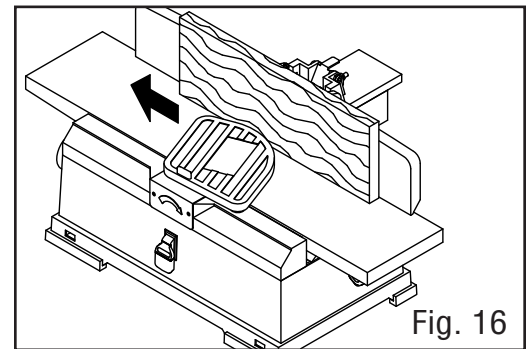

Fig. 16
2. Feed the work piece at an even rate over the cutterhead. Any hesitation or stopping will cause a “step” to be cut in the work piece. See Figs. 16- 18 for different feeding methods.